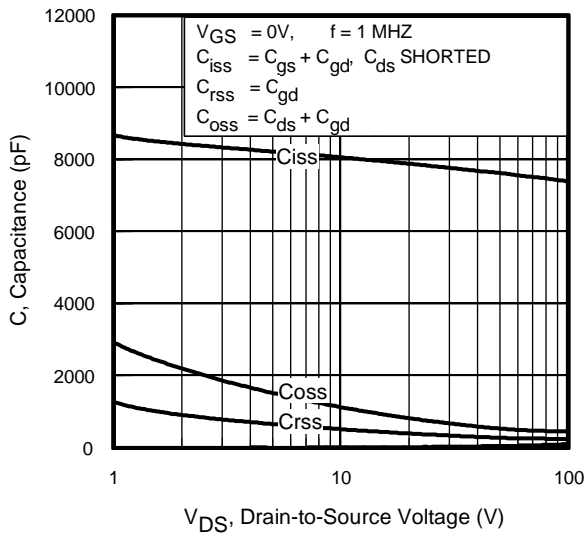

Fig 5. Typical Capacitance vs. Drain-to-Source Voltage
| C oss eff. (TR) | Effective Output Capacitance (Time Related)Ⓢ   | —    | 720.1 | —    |       | V GS = 0V, V DS = 0V to 80V Ⓢ, See Fig. 5 |